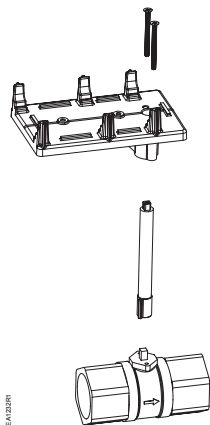

Figure 3.
1. Insert the ball valve bracket shaft through the bottom of the bracket. See Figure 3.
4. While holding the shaft in the appropriate orientation, assemble the bracket to the valve using the two M4 × 0.7 × 50 mm, or M4 × 0.7 × 53 mm screws, depending on your configuration. (See Figure 3.)